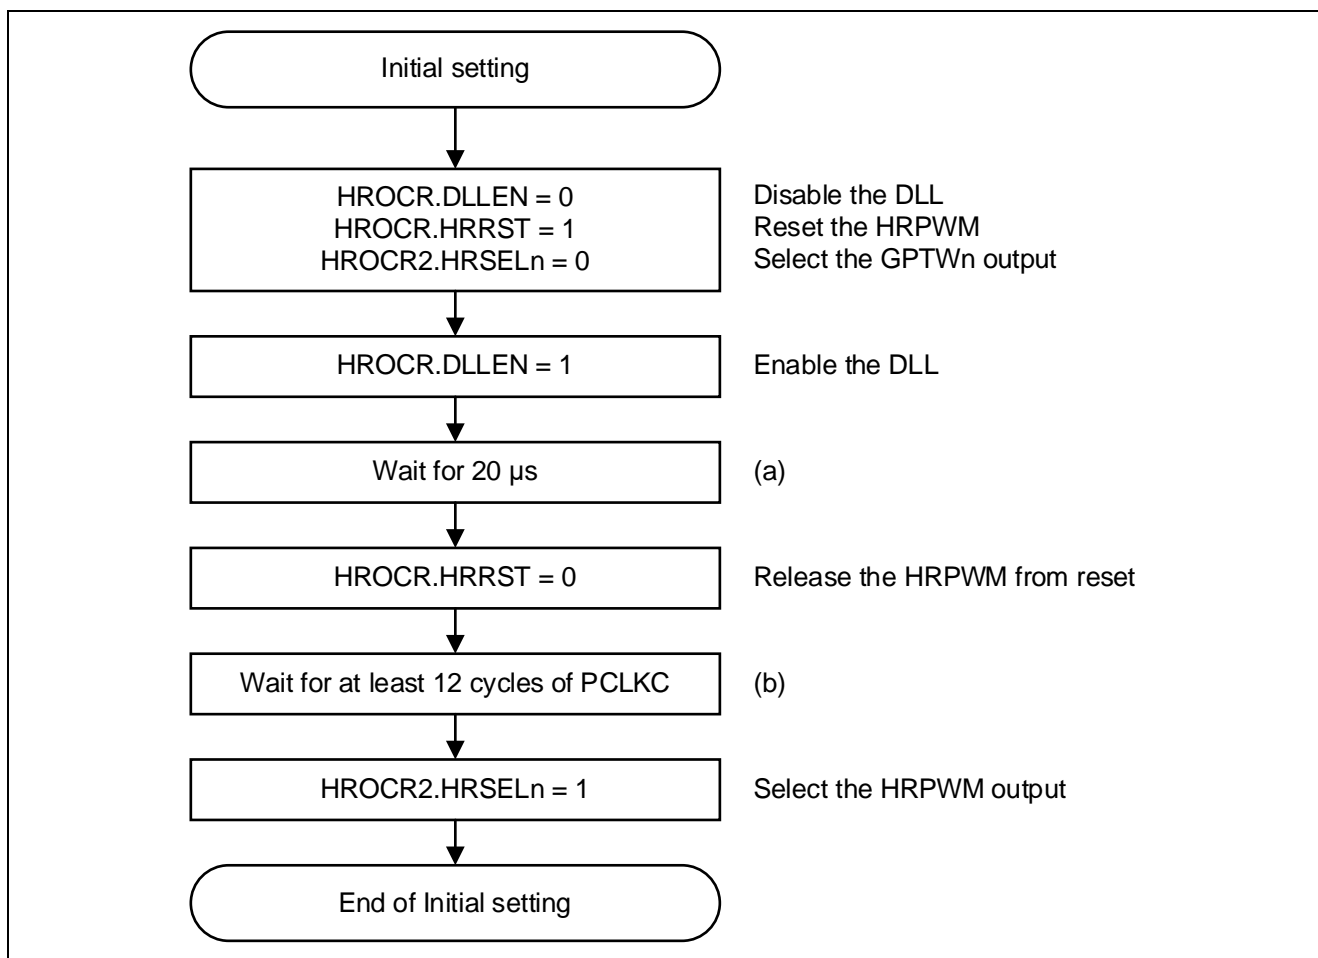

Figure 1.5 HRPWM Initial Setting Flow (n = 0 to 3)
Figure 1.5 shows the flow for the HRPWM initial settings. The settings in Figure 1.5 are generated by the R_Config_GPTn_Create function (n = 0 to 3) in the Smart Configurator.
- Figure 1.5 (a): When using the Smart Configurator, the wait time is automatically generated according to the set value of the system clock (ICLK).
- Figure 1.5 (b): When using the Smart Configurator, the wait time is automatically generated according to the set value of the ICLK and PCLKC.